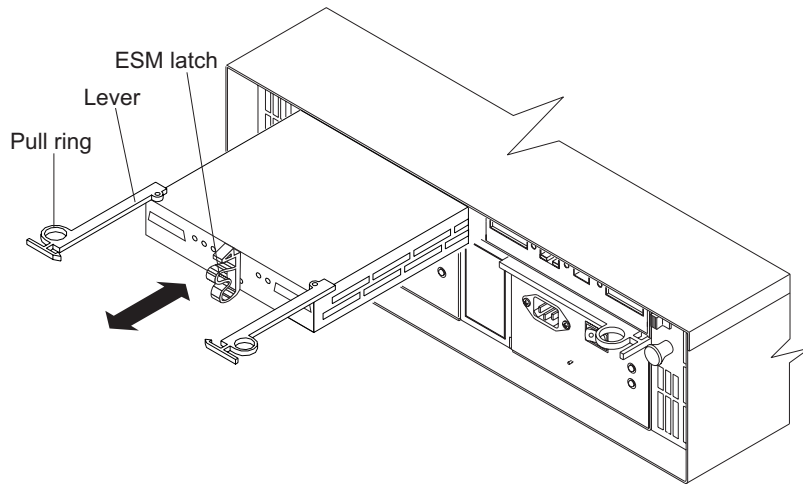

Figure 23. Replacing an ESM
1. Slide one ESM into the empty slot in the expansion enclosure. Be sure that the levers are pulled straight out as you slide the ESM in, as shown in Figure 23.